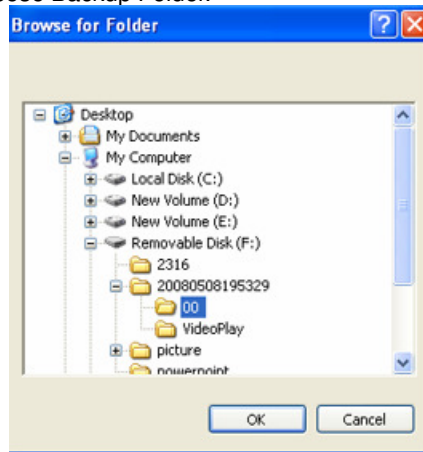

Fig 3.22 Choose Backup Folder
- ① Search area
- ② video display area
- ③ Video data area
- ④ Control area
- ⑤ AVI converting
STEP2 Click Browse to choose the folder which contains the video backup, as in Fig 3.22 Choose Backup Folder.